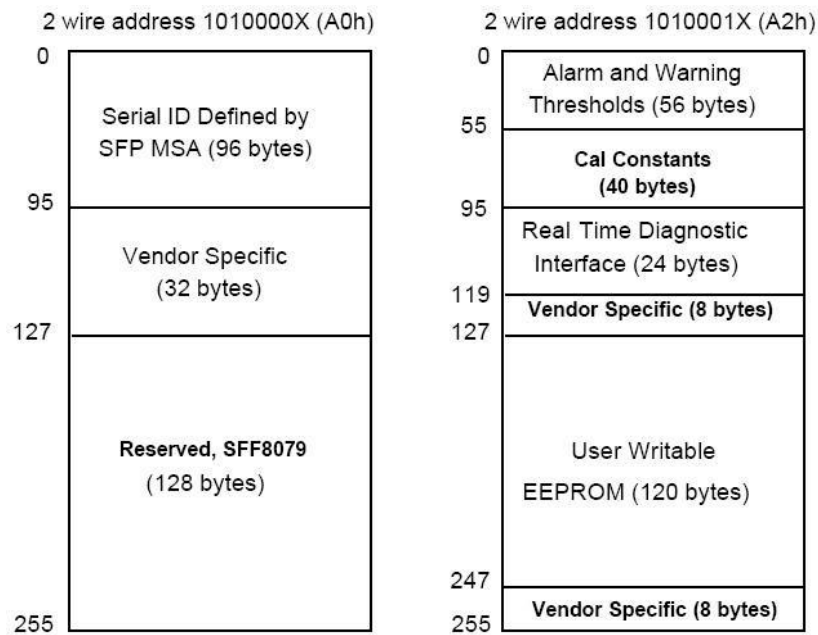

Figure 4 Digital Diagnostic Memory Map
*The 2-wire serial interface addresses of the SFP module are 1010000x (A0h) and 1010001x (A2h). They are shown in Figure 4.